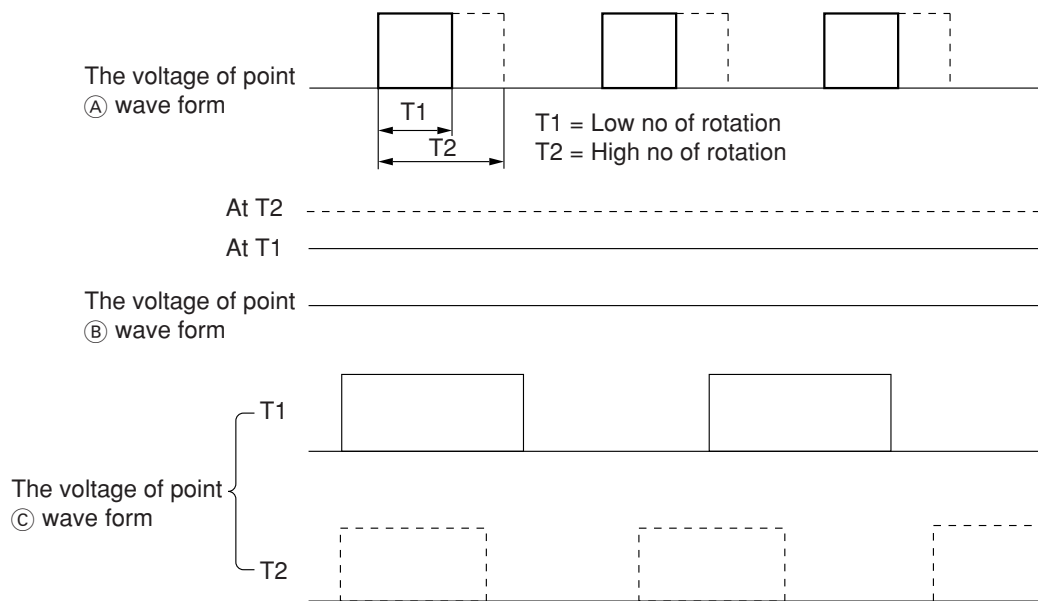

Fig. 6-2
- The 15.7 kHz PWM pulse shown in Fig. 6-2 from the microcomputer pin 54 is output to point A. The width of this pulse changes with instruction number of rotations.